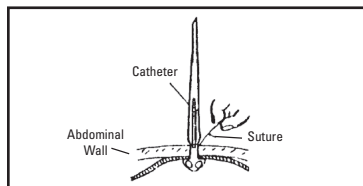

Figure 7
- Grasp the loose end of the tear strip (black suture material located at the distal end of the red strip), and pull up along red strip (away from patient) (Figure 7).